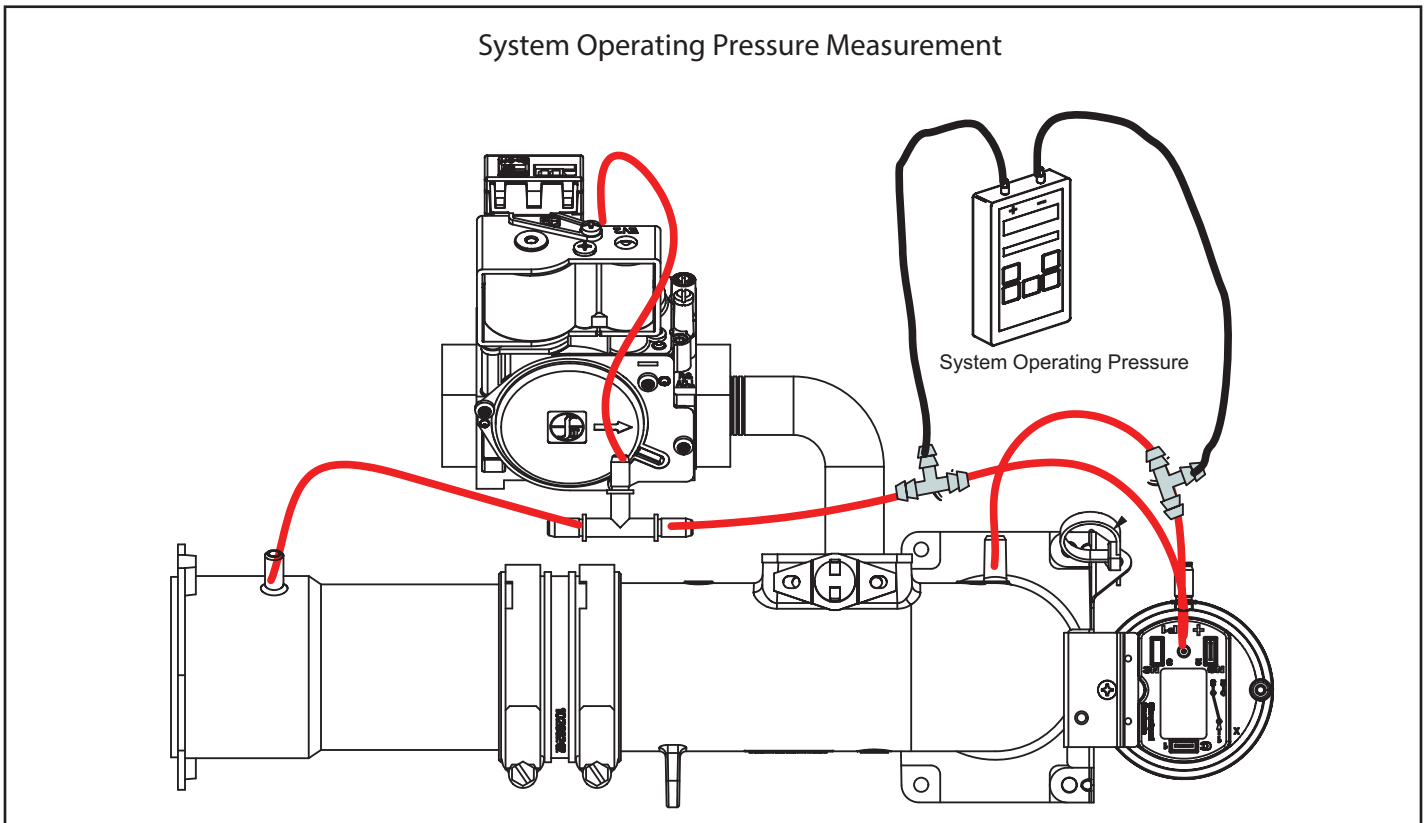

FIGURE 21
- 5 - Install hoses and meter as shown in FIGURE 21 for system operating pressure measurement. The system operating pressure is monitored by the pressure switch and is the pressure drop across the air orifice.